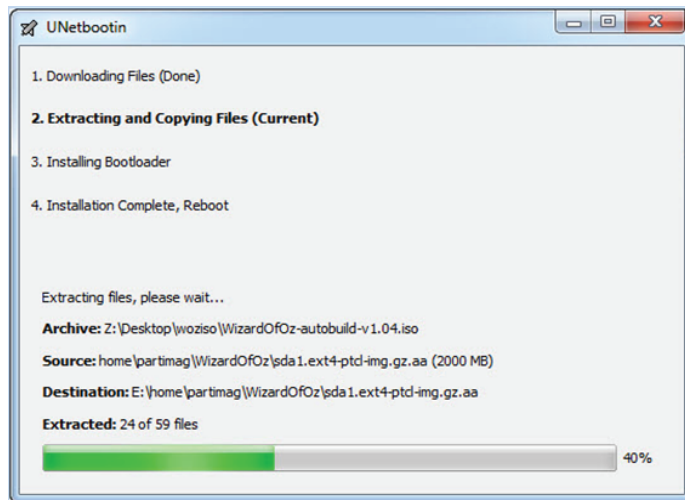

Figure E11. UNETBOOTIN copy/burn progress window.
6) Throughout the ISO image copy/burn process, the window in figure E11 will be displayed and updated.